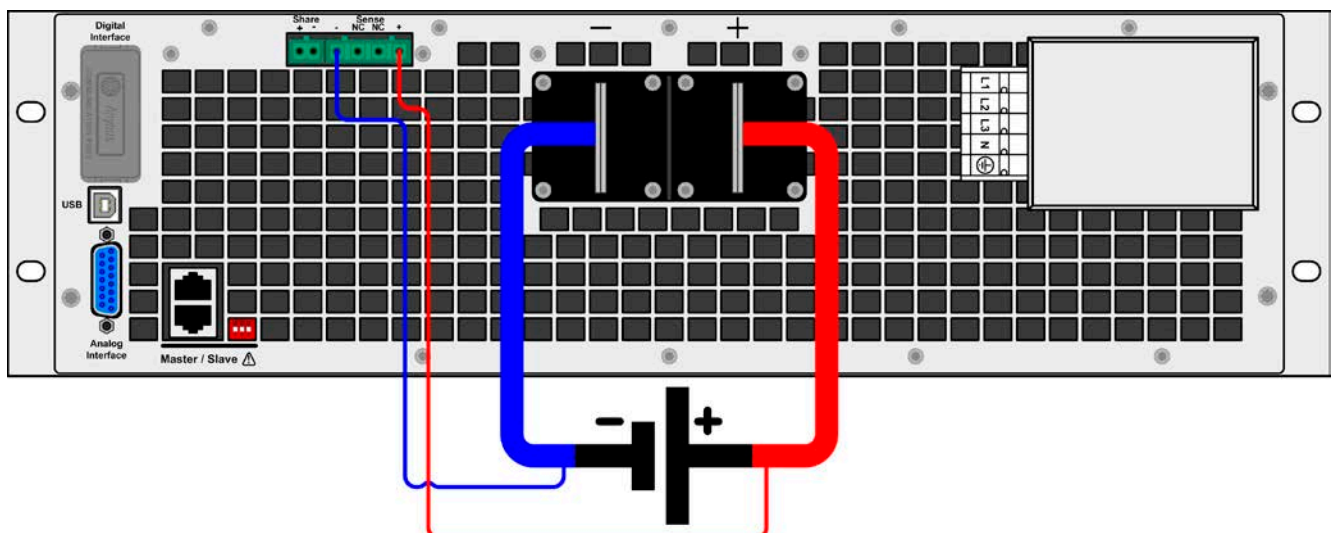

Figure 12 - Example for remote sensing wiring
- Remote sensing is only effective during constant voltage operation (CV) and for other regulation modes the sense input should be disconnected if possible, because connecting it generally increases the oscillation tendency.
- Sensing cables must be connected + to + and - to - at the source, otherwise the sense input of the electronic load can be damaged. For an example see Figure 12 below.